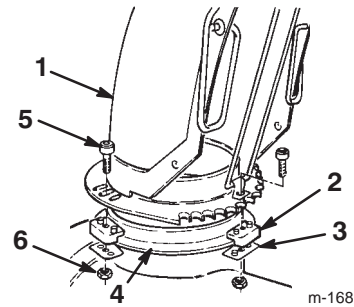

Figure 7
1. Apply a light coat of low-temperature grease to the chute ring (Fig. 7).
2. Set the discharge chute (open side forward) onto the discharge opening so that the chute retainers are on the chute ring (Fig. 7).
3. Tighten the screw and the locknut on the left side to position the chute retainer against the chute retainer plate and to secure the discharge chute to the chute ring (Fig. 7).
4. Push the other chute retainers toward the discharge chute (slotted), and tighten the screws (Fig. 7).
5. Ensure that the chute rotates freely on the chute ring. If the chute binds, move the right-hand retainer outward (Fig. 7).